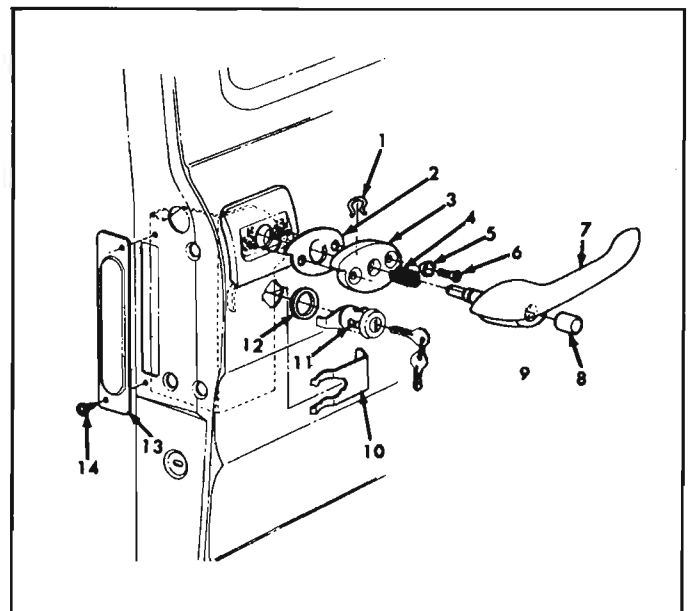
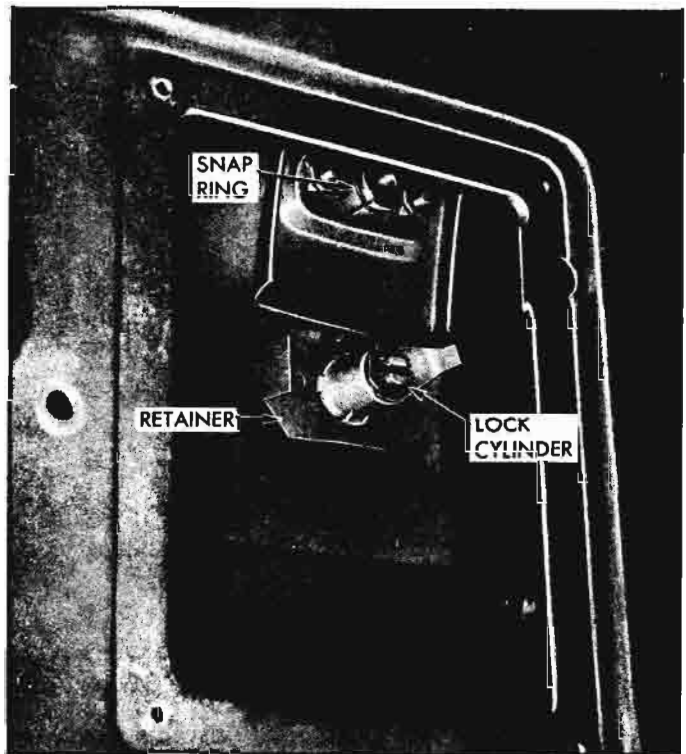

Fig. 10-67a—Side Intermediate Door Handle Assembly
Fig. 10-69a—Side Intermediate Handle and Lock Cylinder Retainer
Removal and Installation (Refer to Figure 10-67a)
3. Remove retainer ring (1, fig. 10-67a) from escutcheon (3, fig. 10-67a). Access to retainer ring is through opening in panel door (fig. 10-69a) or through opening when trim panel is removed for doors with windows.
5. Install gasket and escutcheon to door panel with retaining screws (fig. 10-67a).
6. Install handle and rubber bumper assembly to door and snap retainer ring (1, fig. 10-67a) in place through access hole or trim panel opening.
2. Reach behind lock and pull lock cylinder retainer from lock cylinder (fig. 10-69a).